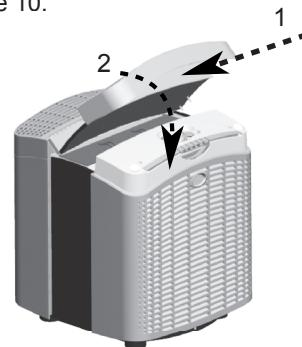

Fig. 10 - Reinstalling the Top Cover
- Reinstall the Top Cover. Place the Tabs on the back of the Top Cover into the corresponding holes in the Base. Then, move the front of the Top Cover downward. See Figure 10.